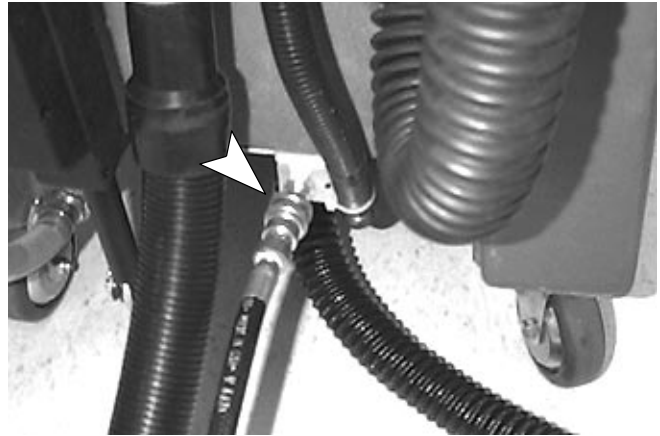

FIG. 11
4. Connect solution hose to accessory tool coupler, located at lower rear of machine (Figure 11).